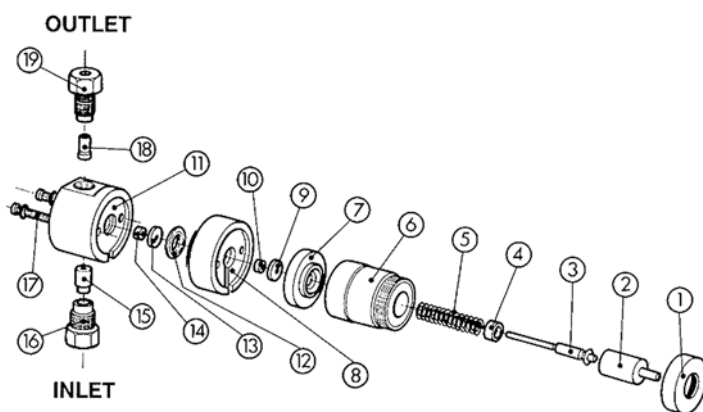

Figure 20 Washing head (exploded view)
- 5** Remove seal insertion tools and reassemble the pump head following Figure 20 on page 85 and the ink mark which was placed on the pump head body before disassembly (see “Removing seals 200 mL/min Head” on page 87).